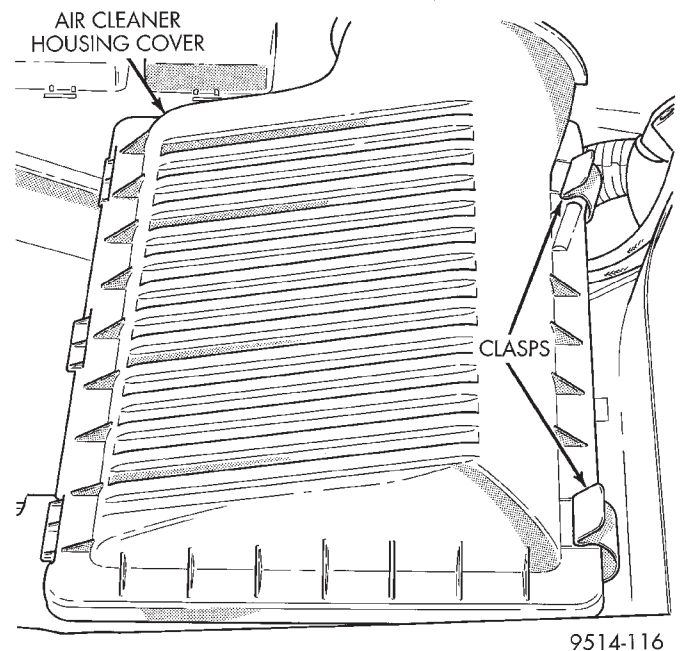

Fig. 86 Air Cleaner Cover Clasps
- (1) Unfasten clasps on rear of air cleaner housing cover. Lift cover off air cleaner housing (Fig. 86).